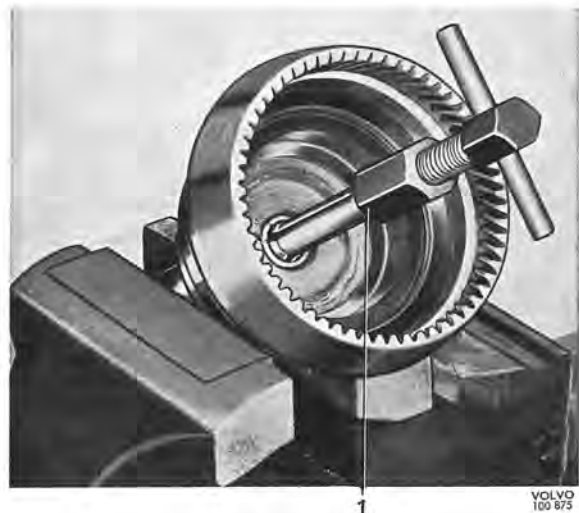

Fig. 4-51. Removing bush, output shaft
4. Remove the circlip and the oil thrower, which hold the uni-directional clutch on the output shaft. Lift out the uni-directional clutch components. Remove the thrust washer. If necessary pull the bush on the output shaft out with puller 2423, see Fig. 4-51.